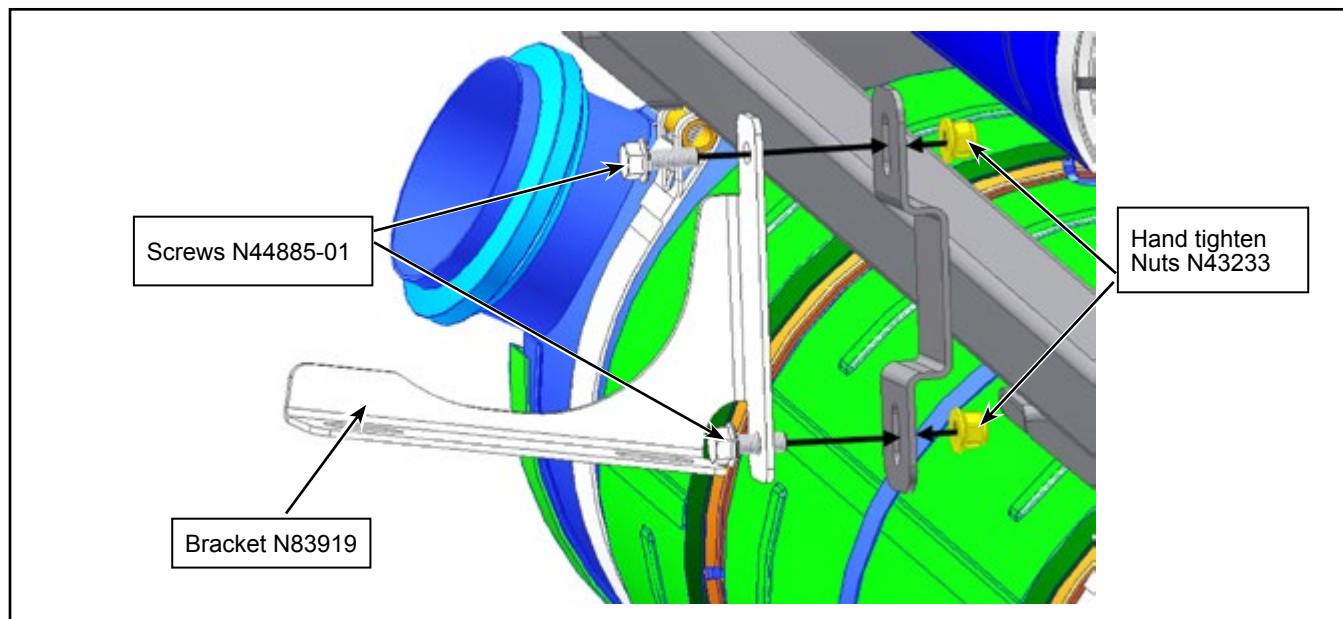

Figure 2 - Bracket N83919 Affixed to the Structure
- 1.8. Affix bracket N83919 to the structure with N43233 nuts and N44885-01 screws. Hand tighten the nuts. See Figure 2. Tightening will be performed after new pipes are installed.